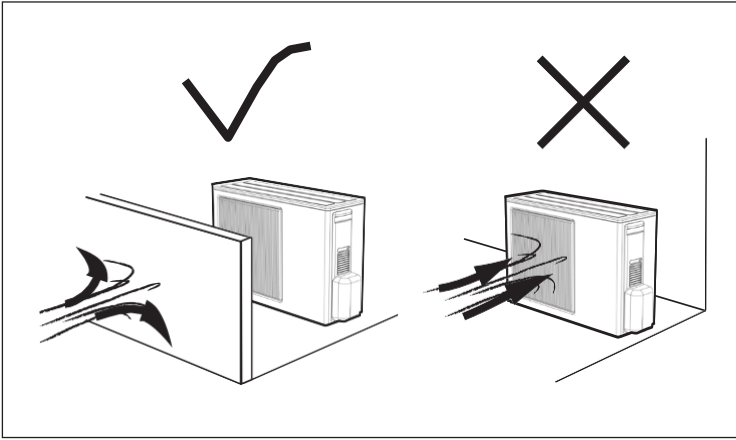

Figure 1. Choose a position protected from opposing winds
- Choose a position protected from opposing winds, see Figure 1 on page 17.